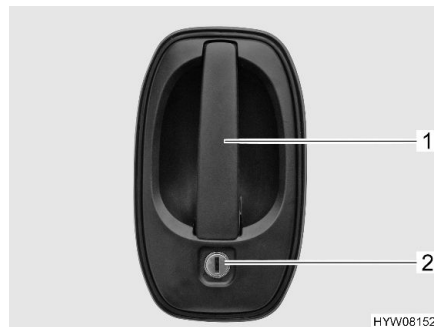

Fig. 15 Door lock (driver's door, conversion door, outside)
- Insert the key into locking cylinder (Fig. 15,2) and turn until the door lock is unlatched.
- Pull on the handle (Fig. 15,1). The door is open.
- Insert the key into locking cylinder (Fig. 15,2) and turn until the door lock is engaged.